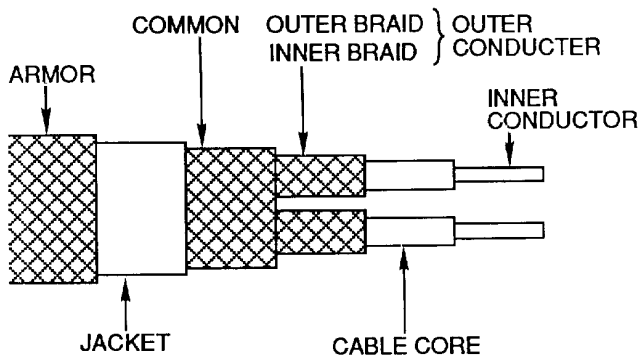

Figure 4. Dual Coaxial (Parallel)
c. **DUAL COAXIAL.** A dual coaxial cable is two individual coaxial cables, either laid parallel or twisted around one another and placed concentrically within a common jacket or a common shield and jacket (Figure 4).